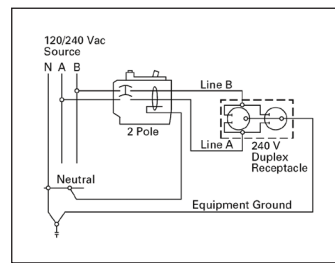

Figure 17. Two-pole, 240 V load application sourced by 120/240 Vac
- ^b Common trip refers to two-pole 240 V load application sourced by 120/240 Vac (see **Figure 17**).